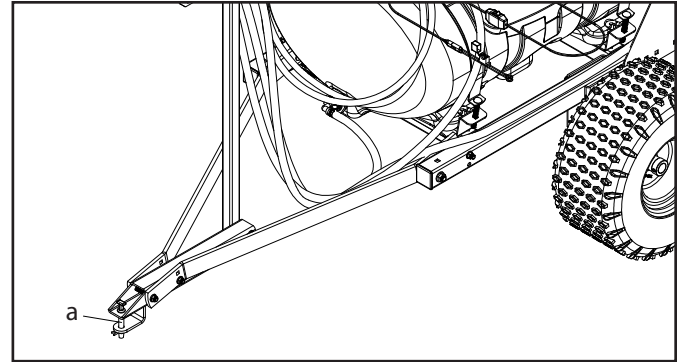

Figure 6: ATX-TR mounting
1. Attach the sprayer to the ATV or utility vehicle using the included hitch pin (a) (Figure 6).